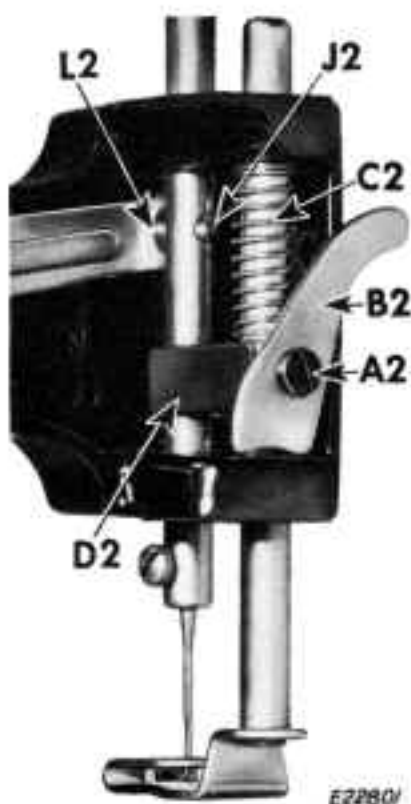

Fig. 15. Removing and Replacing Presser Bar
5. Remove hinge screw **E2**, **Fig. 14**. Then disengage connecting stud **J2**, **Fig. 15** from "socket" **L2** in needle bar lever.
1. Insert needle bar so that it fits between sides of guide bracket **D2**, **Fig. 15**.
2. Insert connecting stud **J2**, **Fig. 15** in needle bar hole with round head of stud on same side of needle bar as the number "6" stamped near top of needle bar.
3. Fit round head of connecting stud **J2** into "socket" **L2** as shown in **Fig. 15**.
6. Lower presser bar and remove screw **A2** and lifting lever **B2**, Fig. 15. While holding spring **C2** and guide bracket **D2** in place, remove presser bar. Then remove spring and guide bracket.
To replace presser bar, fit spring **C2**, Fig. 15 in position and slide presser bar up through bottom hole, spring, and top hole in machine arm. Compress spring from bottom and insert guide bracket **D2**
4. Bent or loose guide bracket **D2, Fig. 15**—(Correct)